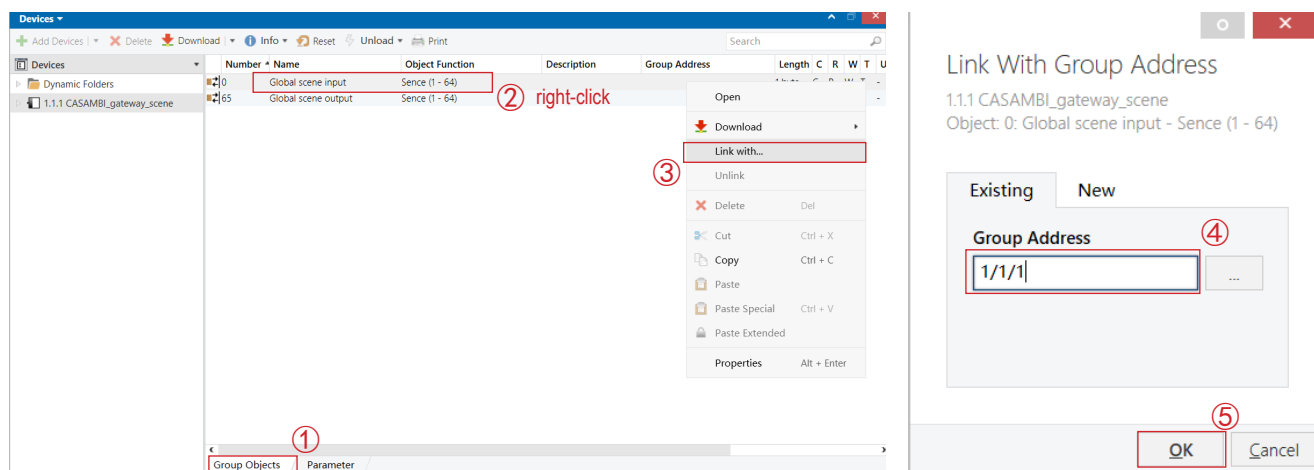

Figure 11
- For bi-directional scene activation function, Assign group addresses for Group objects ( “Global scene input”, “Global scene output”, as below in Figure 11 ).